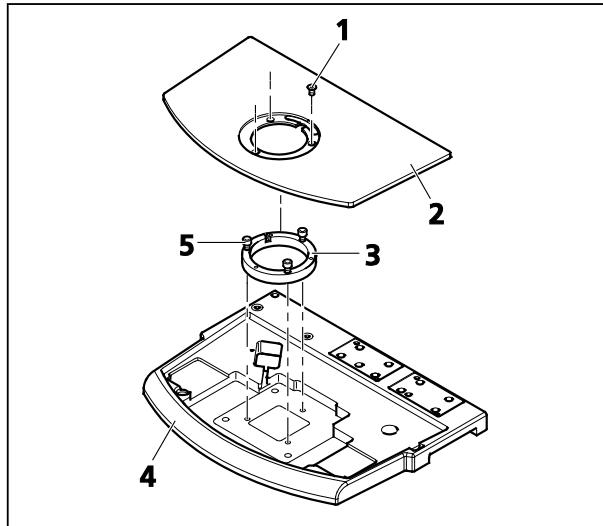

Fig. 12 Mounting the adapter ring
When using stand base 450 it must be ensured that the adapter ring (Fig. 12/3) has been mounted for holding stages.
- Removing stage insert plate (Fig. 12/2). Remove the three screws (Fig. 12/1).
- Insert the adapter ring (Fig. 12/3) into the stand base(Fig. 12/4) and secure with the three captive screws (Fig. 12/5).